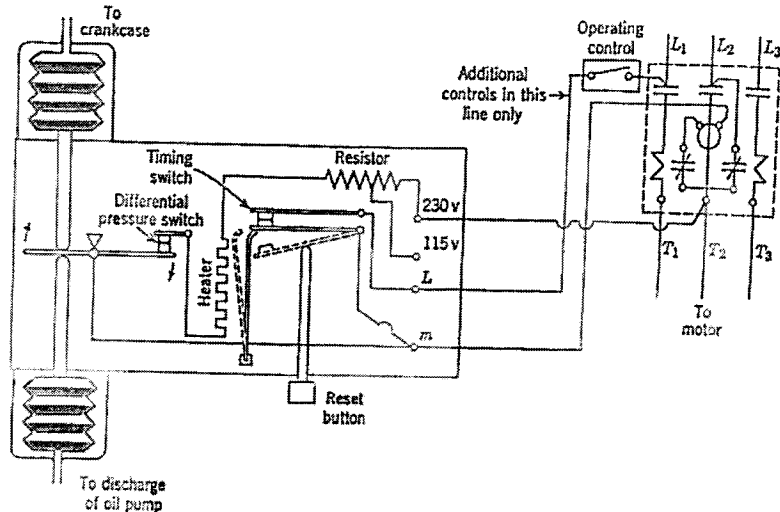
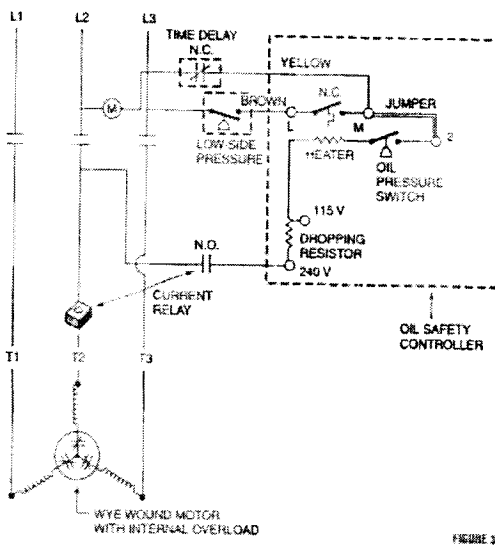

FIGURE 2.
FIGURE 3.
**FIGURE 1 (RIGHT).** The tubing connected to the bellows can be a high-pressure rubber hose, such as shown in the lower right of this photo. **FIGURE 2 (MIDDLE).** Internal action of the bellows type controller. **FIGURE 3 (BOTTOM).** The addition of a current relay on one leg of the compressor will tell the electronic controller that the compressor is not running and will open a circuit to the safety heater on the oil safety control.
If a motor is equipped with both an internal inherent motor protector and an oil safety controller, the oil safety controller may trip due to a motor overheating or overloading problem on some systems. When the internal overload opens, the motor is shut off but the motor starter coil remains energized with contacts closed. This will trip the oil safety controller in a matter of two minutes because of a lack of net oil pressure. However, the addition of a current relay on one of the legs of the compressor will tell the electronic controller that the compressor is not running and will open a circuit to the safety heater on the oil safety controller (Figure 3). ©